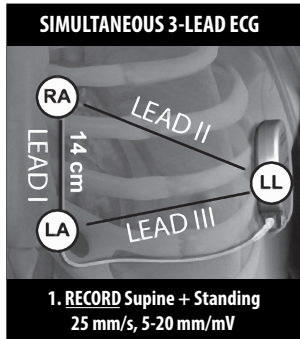

Figure 3. Typical Placement of Surface ECG Electrodes for Patient Screening
1. In order to perform the patient screening process, a surface equivalent of the subcutaneous sensing vectors must be obtained. It is important to collect the surface ECG in the location that represents the intended position of the implanted S-ICD System. When placing the S-ICD System in the typical implant location, the surface ECG electrode should be positioned as follows (Figure 3 Typical Placement of Surface ECG Electrodes for Patient Screening on page 19). If a non-standard S-ICD System subcutaneous electrode or pulse generator placement is desired, the surface ECG electrode locations should be modified accordingly.